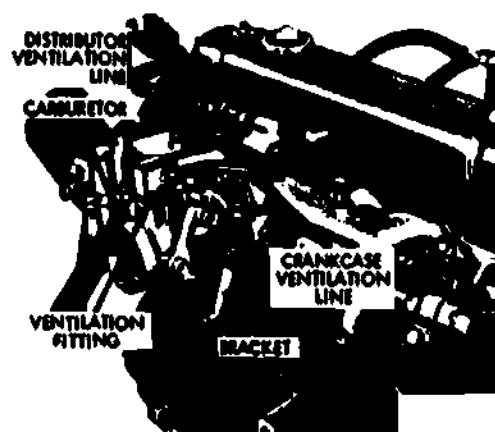

Fig 1-35. Side-draft carburetor.
d. Position of the carburetor. Carburetors are often classified as up-draft, or side-draft. This classification depends on the carburetor's position in respect to the intake manifold. If the carburetor is mounted below the manifold, it is classified as an up-draft carburetor. If it is above the manifold, it is a down-draft. When the carburetor and intake manifold are at the same level, the carburetor is classified as a side-draft (fig 1-35).